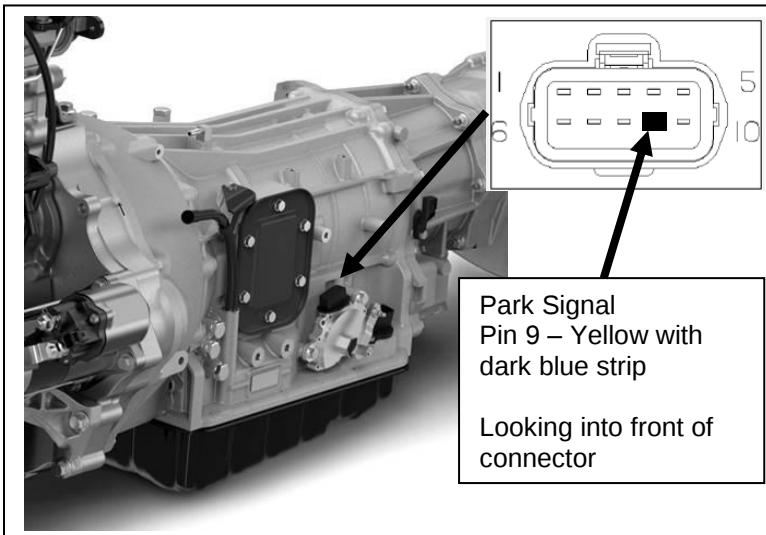

Figure 5.4 – Park Signal location – AS69RC
- ☐ Route the long blue wire from the throttle control to the transmission range sensor on the driver side of the transmission above the oil pan (Figure 5.4). Solder and seal the blue wire to the yellow wire with the dark blue stripe at pin 9 on the connector.